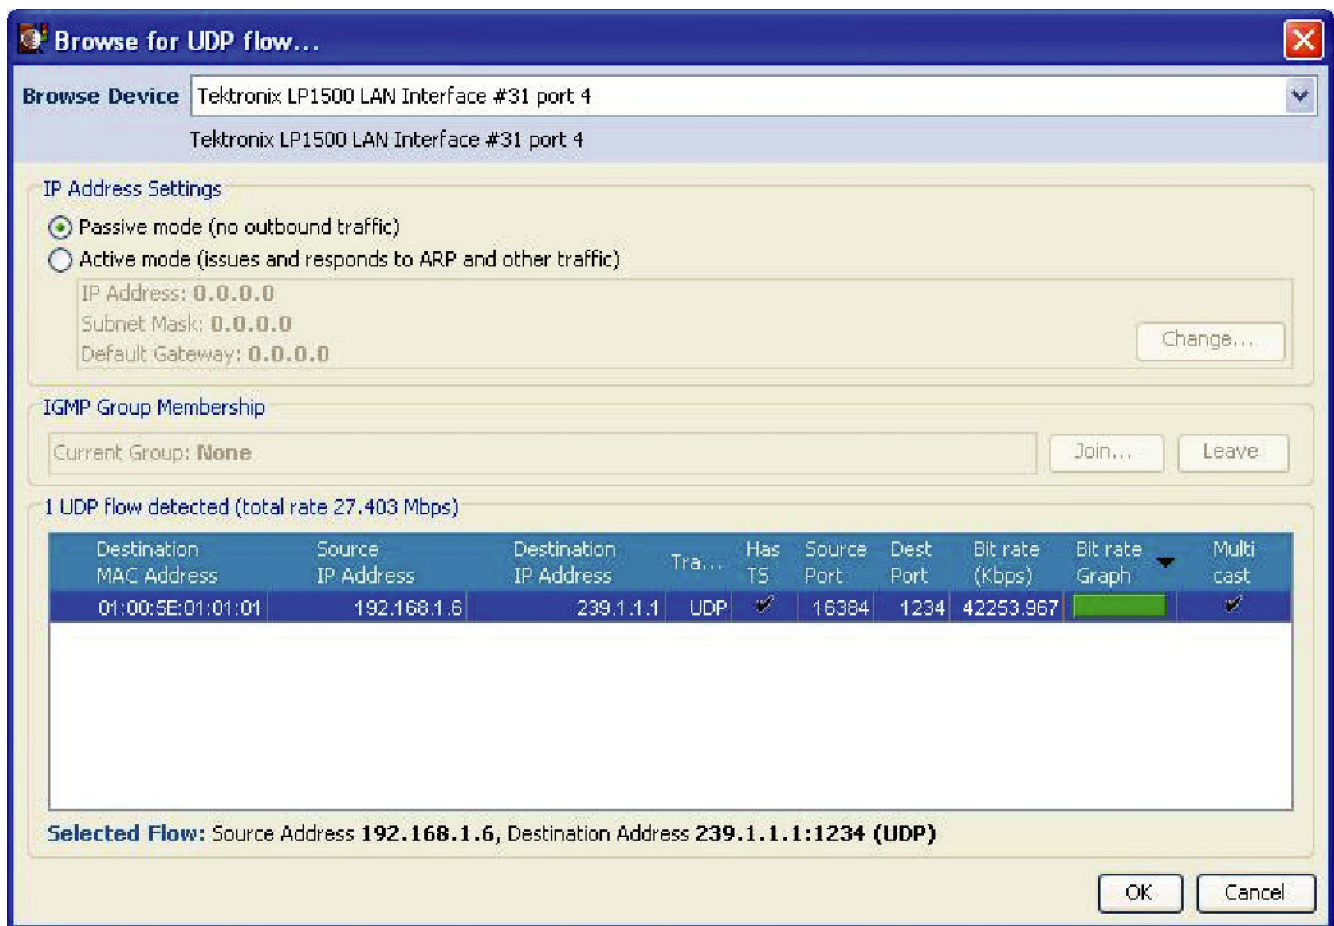

Figure 2-20: IP Flow selection
9. Click the **Browse** button to open the Browse for UDP Flow dialog box. (See Figure 2-20.)